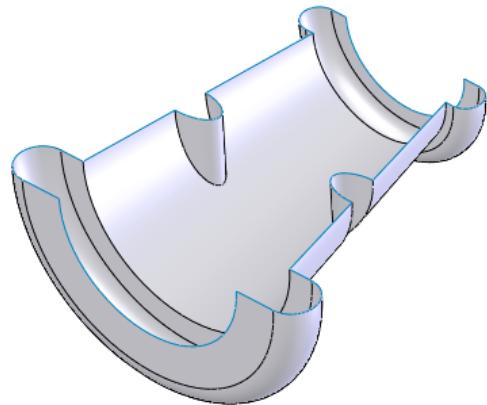

Figure 1-124 Model after trimming the base surface
- Choose the **OK** button from the **Trim Surface PropertyManager**. The model after trimming the base surface is displayed in Figure 1-124.